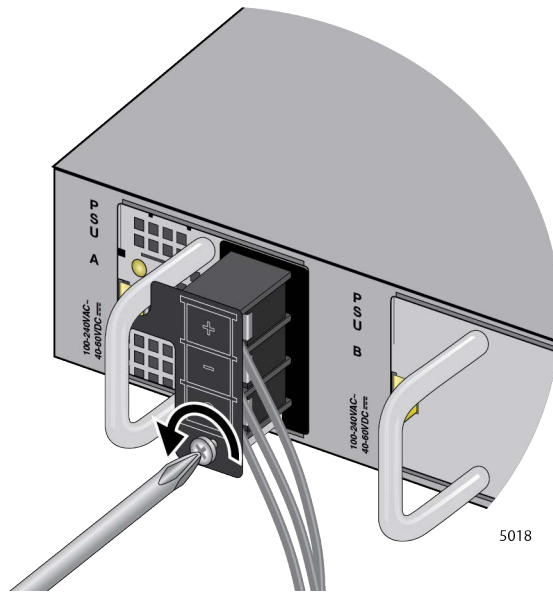

Figure 152. Loosening the Screw for the Panel
2. Loosen the screw for the connector panel with a Phillips-head screwdriver. Refer to Figure 152.